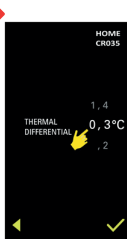

Fig.51A
9.6.1.3 Set the desired value by scrolling the degrees; Fig.51A-51B